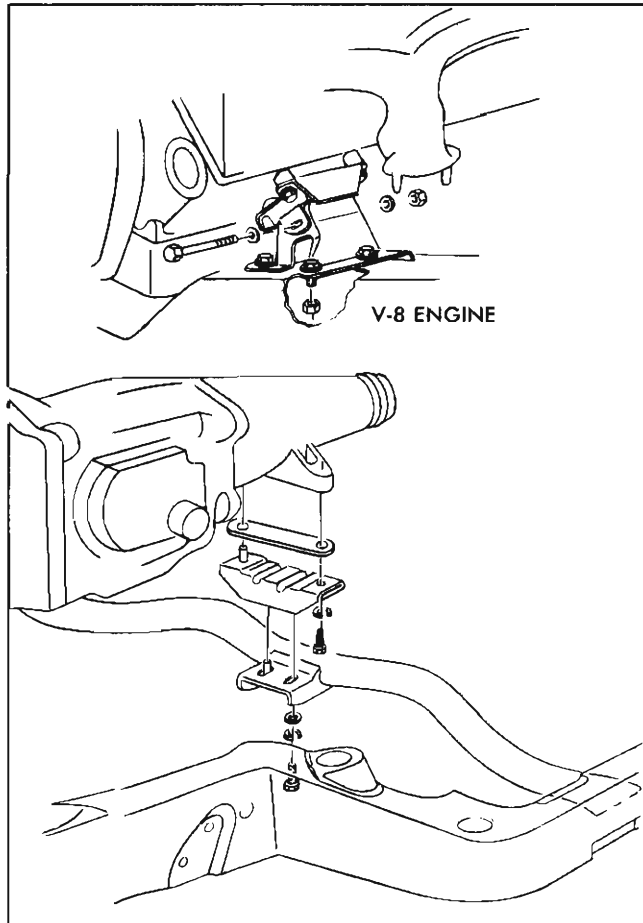

Fig. 16W—Engine Mounts
**Front Mount Replacement (Fig. 16W)**
**Rear Mount Replacement (Fig. 16W)**